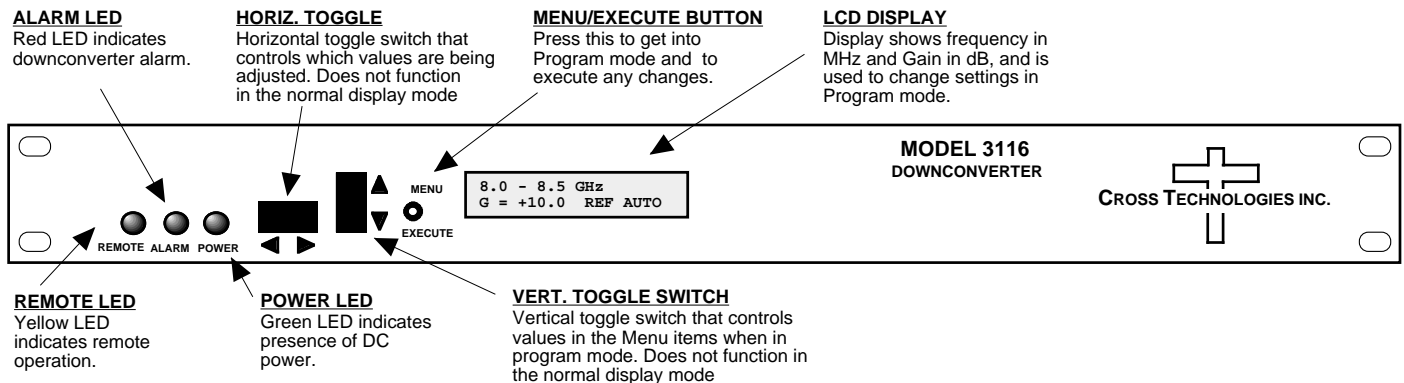

FIGURE 2.2 3116-80-2050 Front Panel Controls and Indicators
- 5.) Be sure the green DC Power is on and the red Alarm is off (Figure 2.2).
Alarm indications appear on the LEDs (see Figure 2.2).